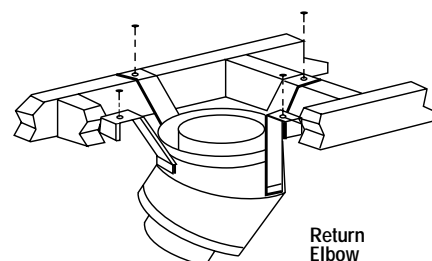

Figure 42
Step 5. Secure support straps to framing members by nailing under tension in shear (**Figure 42**).